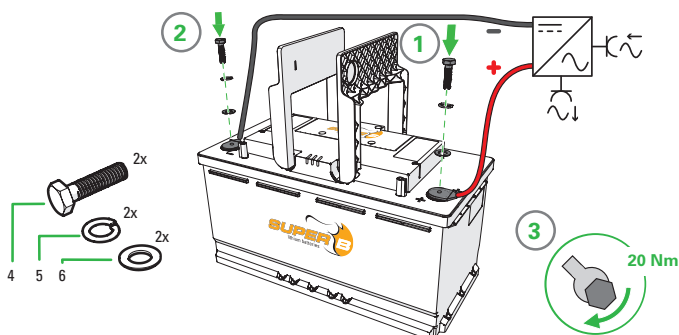

Figure 7. Connecting shrink fit type of power cables
2. Connect the load or charger to the X2 (+) terminal of the Li-ion battery. (Figure 7)
3. Connect the X1 (-) terminal of the Li-ion battery. (Figure 7)